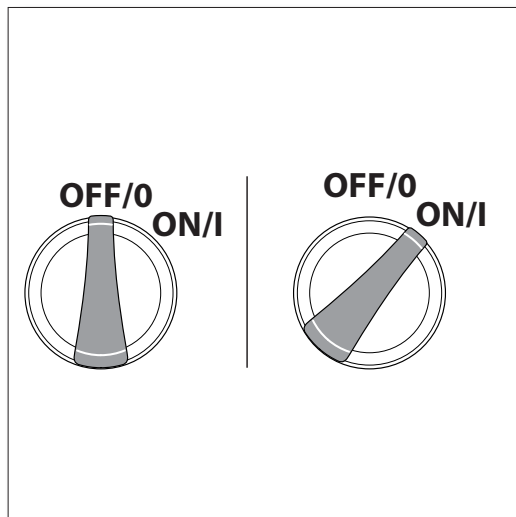

Fig. 18
- Make sure the “ON/OFF” switch is in the “OFF” position. The power switch has international symbols for ‘on’ and ‘off’: On (I) Off (O), **(Fig. 18)**.